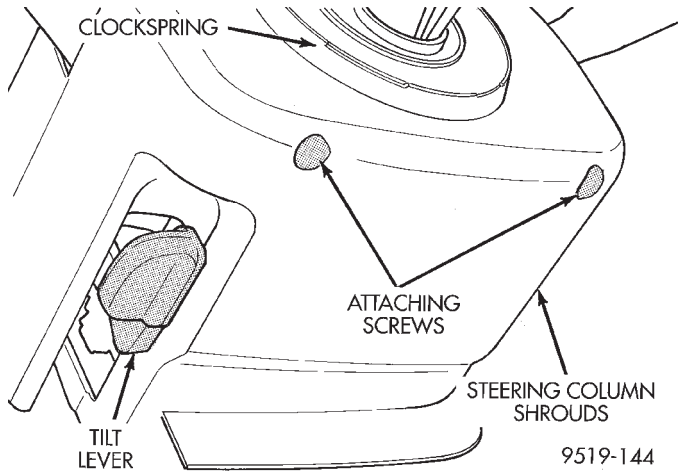

Fig. 11 Steering Column Shroud Attaching Screws
(17) Remove the 2 screws attaching the upper and lower shrouds to the steering column (Fig. 11). First remove upper shroud from steering column, then release tilt lever and tilt steering column to its highest point. Then remove lower shroud from steering column.
(9) Install the upper and lower steering column shrouds onto the lock housing of the steering column assembly. Install and securely tighten the 2 upper to lower steering column shroud to lock housing attaching screws (Fig. 11).